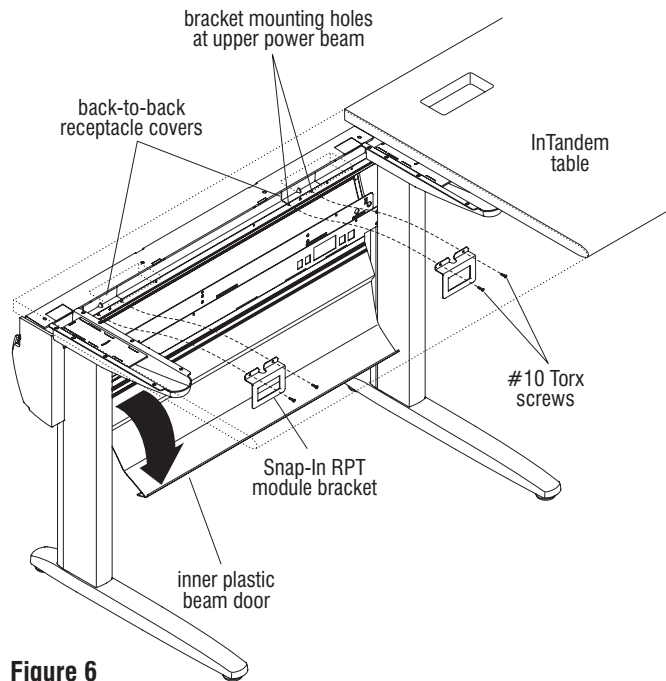

Figure 6
1. Un-clip and open the inner plastic beam doors to access the power beam (Figure 6).
2. Locate the two Snap-In RPT module bracket mounting hole locations near the back-to-back receptacle covers. One pair of mounting holes is at each end of the beam as illustrated (Figure 6).
3. Position the Snap-In RPT module bracket up to the power beam as illustrated and use the #10 self-tapping Torx screws to secure the bracket to the beam (Figure 6).